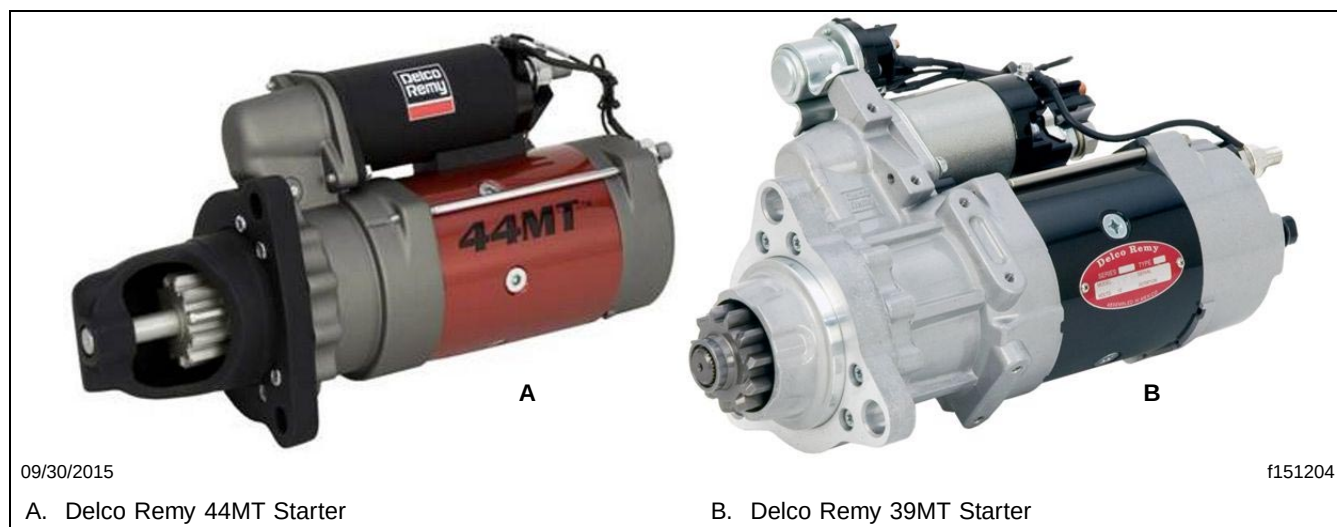

Fig. 1, Delco Remy 44MT and 39MT Starters
4. Check that the starter on the vehicle is a Delco Remy 44MT. Differentiate the starters using housing color and IMS (see **Fig. 1**):